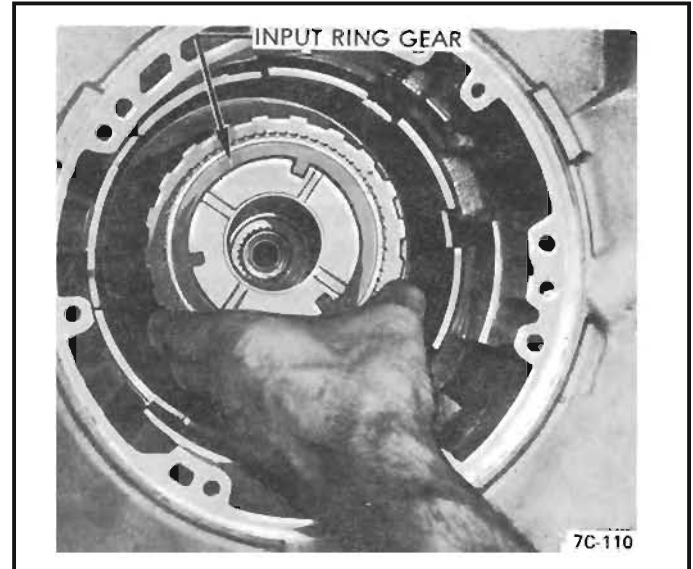

Figure 33 Input Ring Gear Removal
2. Remove input ring gear. See Figure 33.